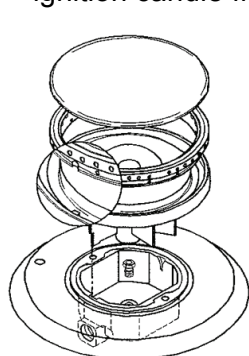

Fig.21
*Burners: auxiliary, semi-rapid, rapid, super rapid:* for correct fitting of the burners, flame diffusers and the enamel burner caps in the cups in the hob, follow the sequence given in fig. 21. Take care that the burner guides on the cup and flame diffuser of the burner perfectly correspond.